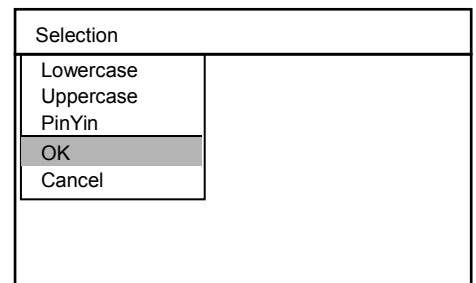

Fig.5-19 Selection
3. Lowercase and Uppercase switch: as shown in Fig. 5-19, select lowercase or uppercase → press **OK** key, then the letter input will change into lowercase or uppercase.
8. After finishing edit, press  key → press the direction keys to select “OK” → press  key to save and return or to select “Cancel” → press  key to cancel and return. (as shown in Fig.5-19)